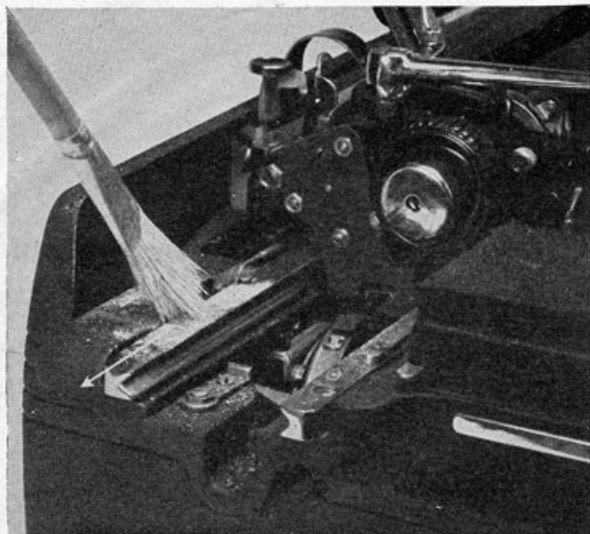

Figure 4.—Brushing the machine.
2. **CLEAN THE MACHINE.**—Use the long-handled brush to clean the front, around the keys, the key levers, the type bars and the carriage. Move the carriage to the right and left to get at parts beneath (see fig. 4, p. 6). Next brush the back of the